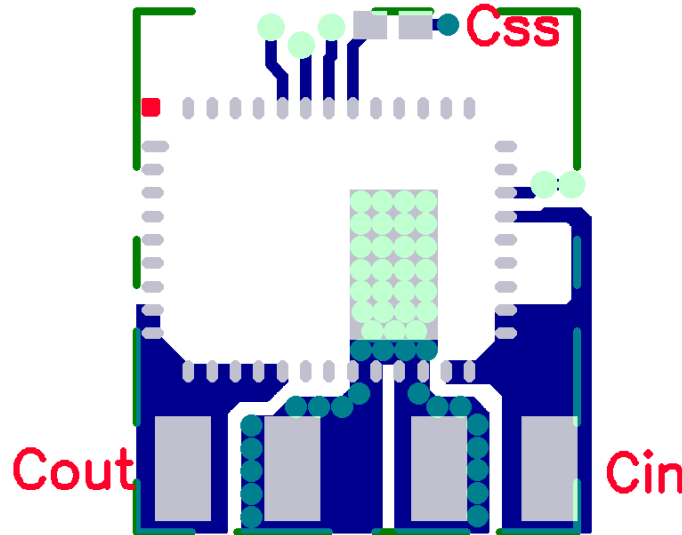

Figure 4: Optimized Layout Recommendations
Figure 4 shows critical components and layer 1 traces of a recommended minimum footprint EN5336QI layout. Alternate ENABLE configurations and other small signal pins need to be connected and routed according to specific customer application. Please see the Gerber files on the Intel website [www.intel.com/enpirion](http://www.intel.com/enpirion) for exact dimensions and other layers. Please refer to Figure 4 while reading the layout recommendations in this section.
**Recommendation 2:** Two PGND pins are dedicated to the input circuit, and two to the output circuit. The slit in Figure 4 separating the input and output GND circuits helps minimize noise coupling between the converter input and output switching loops.
**Recommendation 5:** Multiple small vias (the same size as the thermal via discussed in recommendation 4) should be used to connect ground terminal of the input capacitor and output capacitors to the system ground plane. It is preferred to put these vias under the capacitors along the edge of the GND copper closest to the +V copper. Please see Figure 4. These vias connect the input/output filter capacitors to the GND plane, and help reduce parasitic inductances in the input and output current loops. If the vias cannot be placed under  $C_{IN}$  and  $C_{OUT}$ , then put them just outside the capacitors along the GND slit separating the two components. Do not use thermal reliefs or spokes to connect these vias to the ground plane.
**Recommendation 6:** AVIN is the power supply for the internal small-signal control circuits. It should be connected to the input voltage at a quiet point. In Figure 4 this connection is made at the input capacitor close to the  $V_{IN}$  connection.
**Recommendation 7:** The layer 1 metal under the device must not be more than shown in Figure 4. See the section regarding exposed metal on bottom of package. As with any switch-mode DC-DC converter, try not to run sensitive signal or control lines underneath the converter package on other layers.